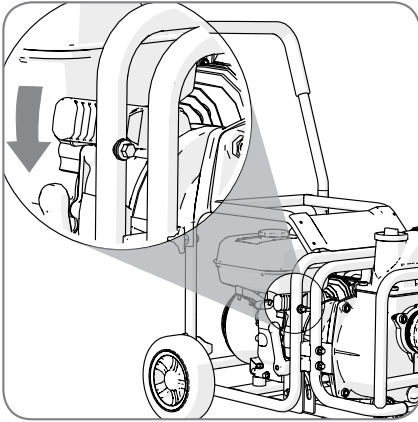

Fig 2
- Firmly push the engine and accessory together until the 'click' of docking is heard. The Uni-coupling release lever will return to its neutral position. **(Fig. 2)**